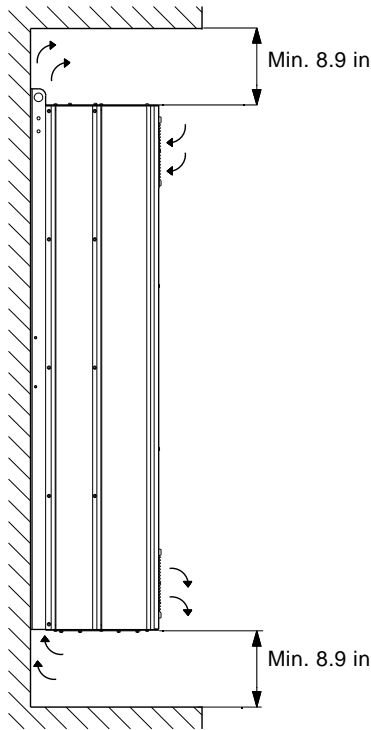

Fig. 4 Airflow direction and required space for cooling
- Sufficient free space above and below the CUE to allow airflow and cable connection. See fig. 4.